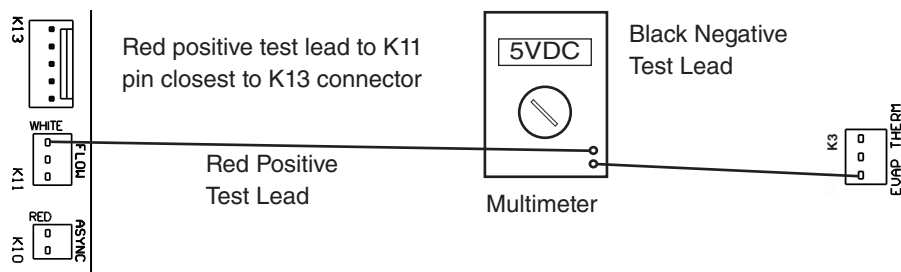

Fig. 2a
- 4) To verify voltage output from CB to the components, slide the CB K1 connector out far enough to allow multimeter lead contact. With the icemaker in the cycle to be tested, check output voltage from the corresponding pin on CB K1 connector to a neutral (W) wire. If output voltage is not found and the appropriate LED is on, replace CB.
- 5) **5VDC Output Checks:** When checking 5VDC control voltage, always place the red positive test lead from the multimeter to the CB white K11 pin closest to the CB white K13 connector. See Fig. 2a. Then place the black negative test lead from the multimeter to the corresponding pin to complete the 5VDC check.